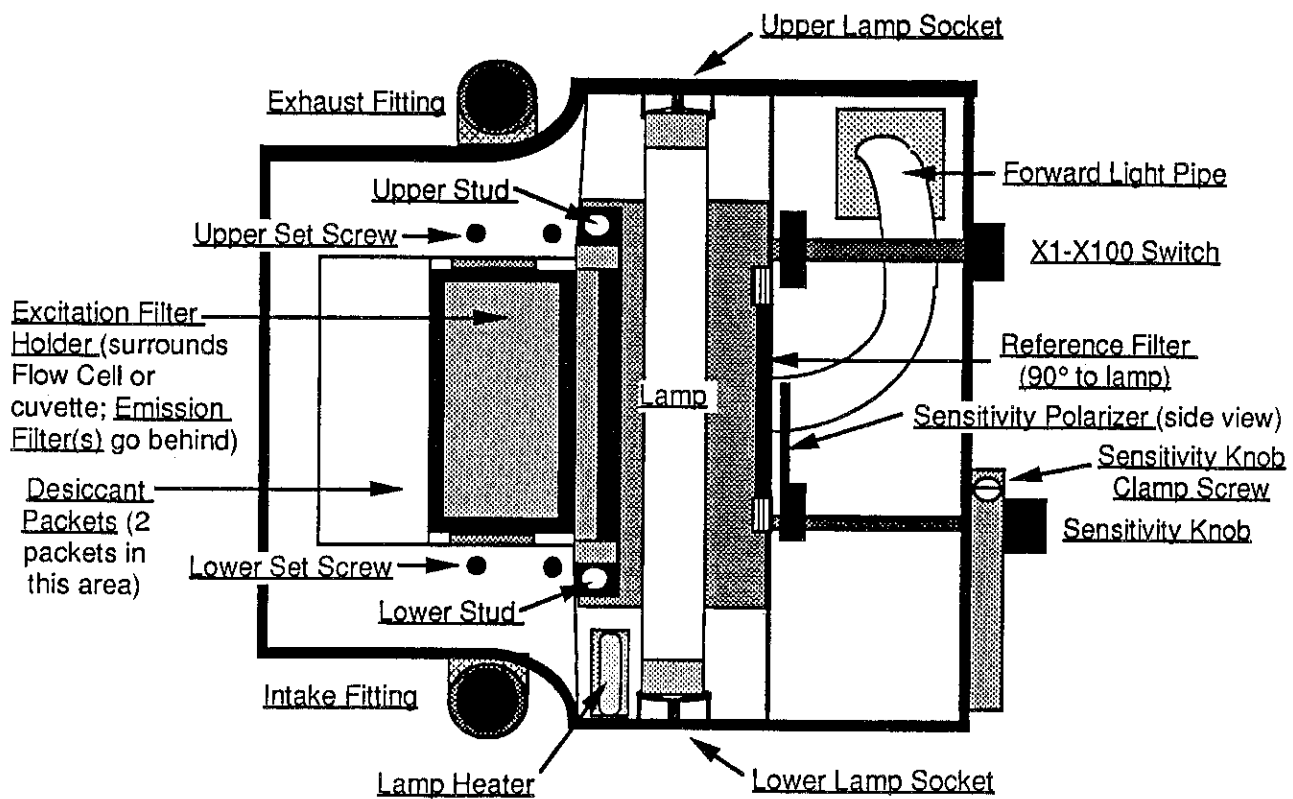

Figure A2. Sample Compartment, Cover Removed
See Figure A2 for locations of various parts with the Sample Compartment Cover removed. (See Figure A3 in Appendix 6.7 for a view with the filters removed.)
If problems are encountered, proceed as follows, referring to Figure A2:
4. Place the packages in the position shown in Figure A2.
2. Remove the Sample Compartment Cover (14 screws). Remove the light source, all filters and the Excitation Filter Holder. See Appendix 6.4.1 and Figure A2 in Appendix 6.4.
In situations where dirty water is being handled, you should have access to allow cleaning of the continuous flow cuvette. See Section 6.4.3 above. Refer to Figure A2, Appendix 6.4; there should be enough room to slide the Exhaust Fitting straight up 1-1/2" and to slide the Intake Fitting straight down 1-1/2" from their installed positions.
If you must install and remove the 10-030 Cuvette Holder, Temperature Controlled, and 13 x 100 mm cuvettes, allow room for a 6" long cylinder to be inserted where the Intake Fitting is shown in Figure A2, Appendix 6.4.